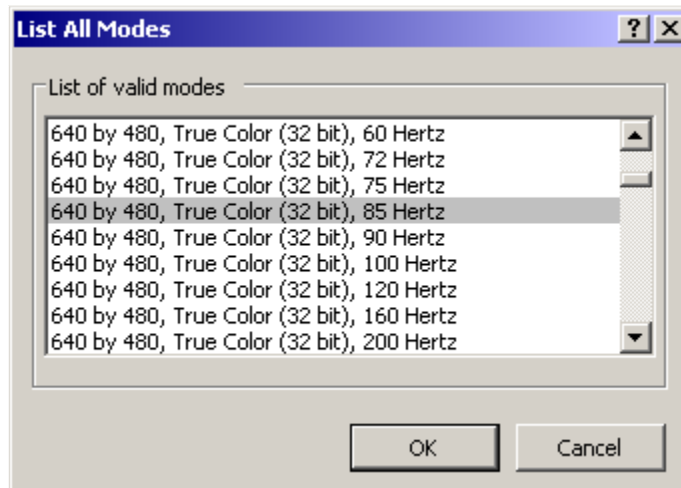

FIGURE 150. List All Modes window
7. A window similar to Figure 150 will appear: